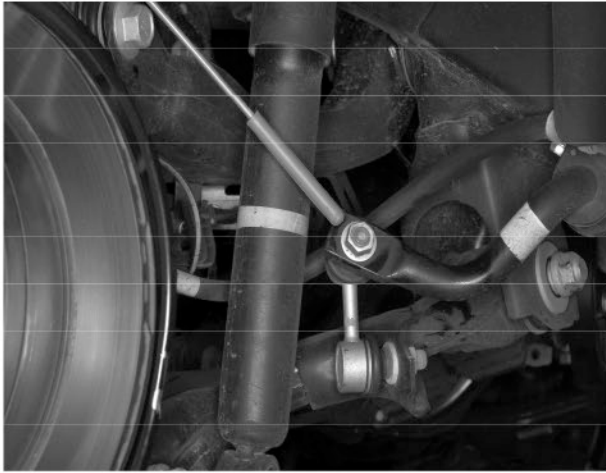

FIG 6
11. Remove the bolts that fasten the sway bar end links to the sway bar on both sides of the rear axle. See (Fig. 6.)